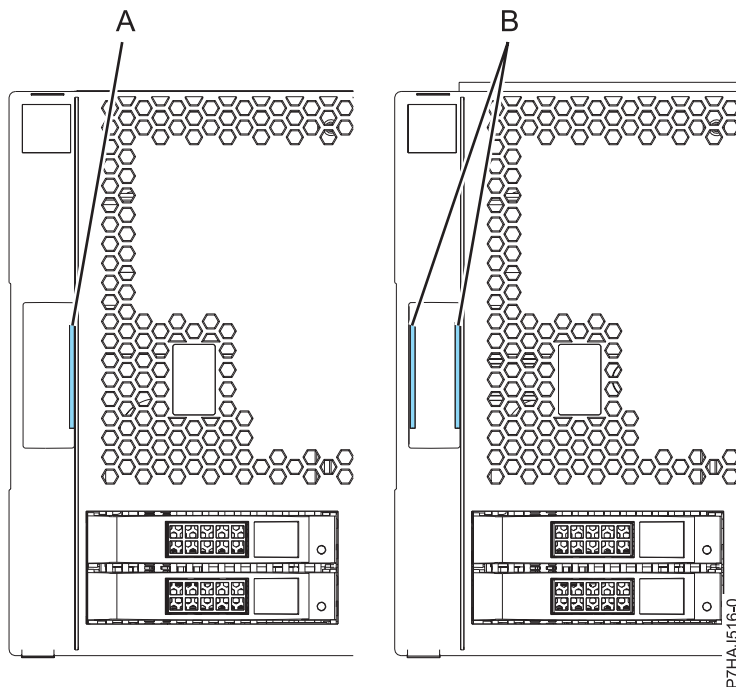

Figure 21. Identifying the older and newer covers
Note: The older covers that were shipped before 1 March 2011 can be identified by a single blue stripe (A) on the cover assembly latches. Newer covers that were shipped after 1 March 2011 have two blue stripes (B) on the cover assembly latches. See Figure 21.